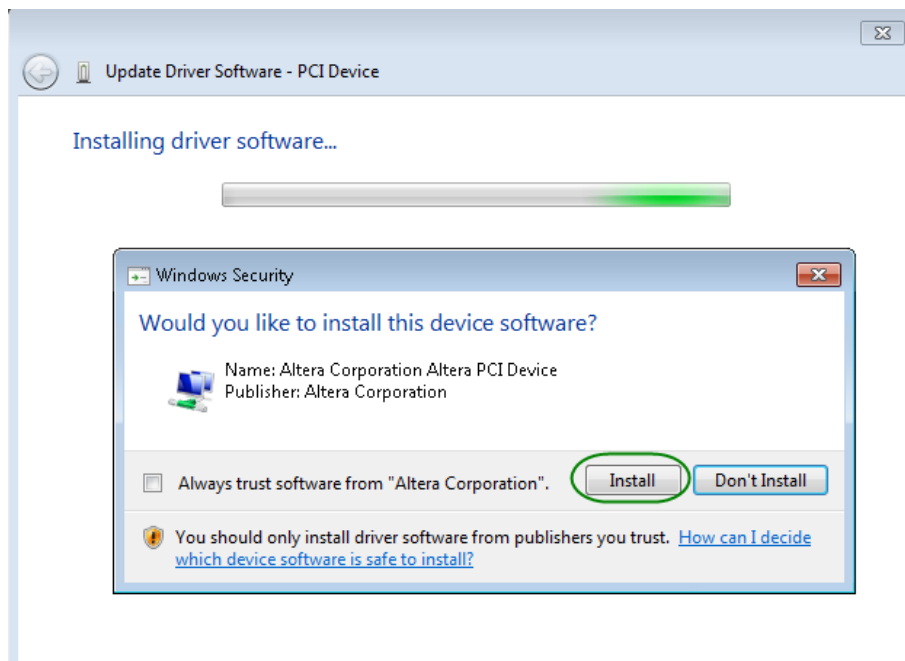

Figure 7-7 Click Install in the dialog of Windows Security
10. When the **Windows Security** dialog appears, as shown Figure 7-7 , click the **Install** button.